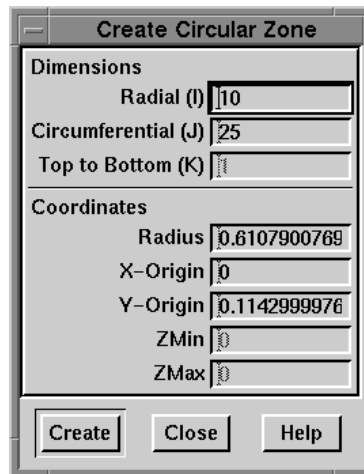

Figure 25-9. The Create Circular Zone dialog.
3. Drag the mouse until the boundary of the zone is as desired, then release. The Create Circular Zone dialog appears (see Figure 25-9) with the current origin and radius filled in for you. You may adjust the dimensions and coordinates as necessary.
1. From the Data menu, choose Create Zone, then Circular. The Create Circular Zone dialog appears, as in Figure 25-9.